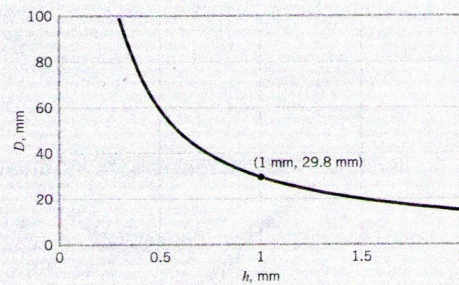

FIGURE E1.8
**COMMENT** By repeating the calculations for various values of the capillary rise,  $h$ , the results shown in Fig. E1.8 are obtained.